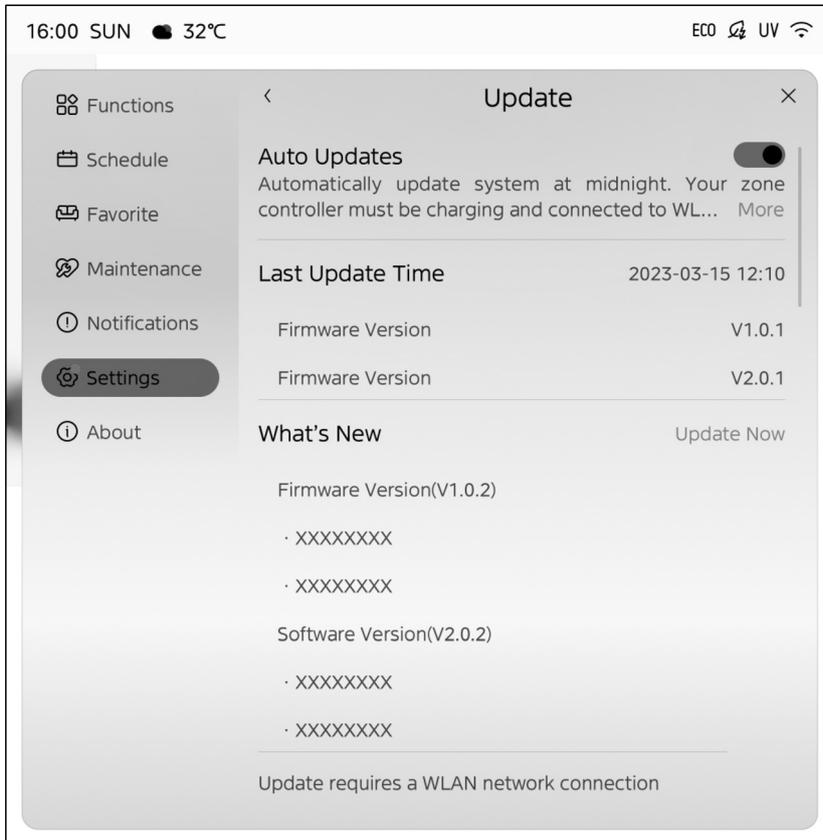

Fig 4.1
1. Find **[Update]** on the menu. (Fig 4.1)